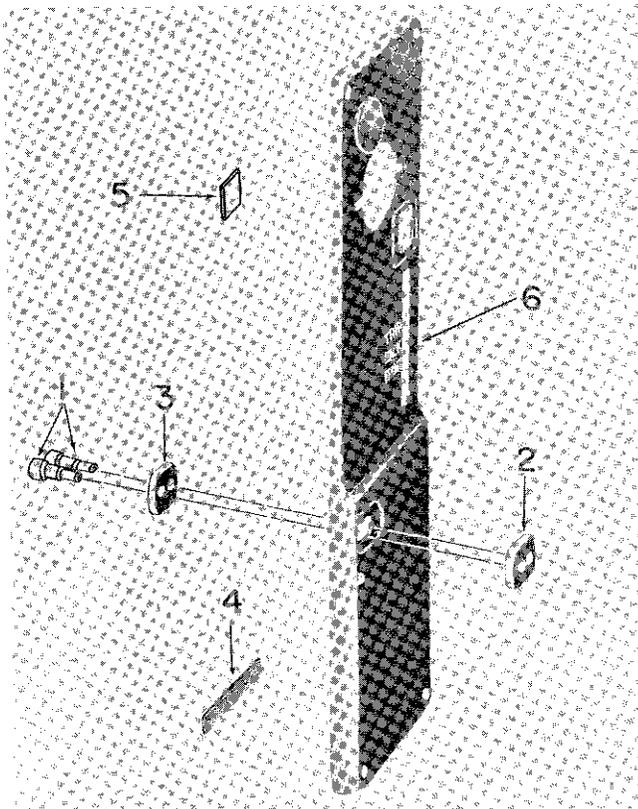
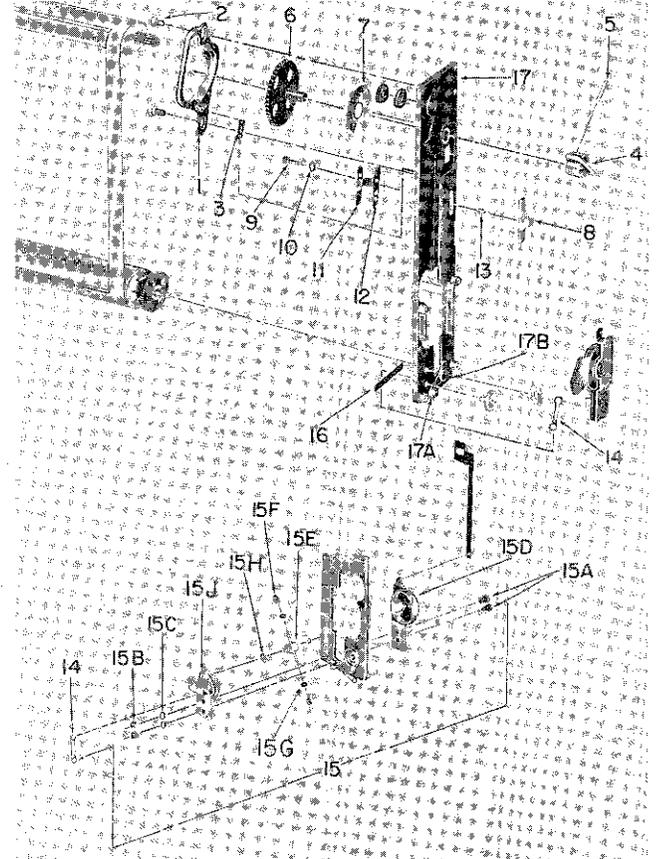

Figure 17. Cover Shutter Plate
Figure 18. Shutter Plate
2. Remove stud (1, figure 17), insulator (2), and washer (3), if necessary.
1. Remove the slide dial (8, figure 3) from the governor stud. Remove the shaft retainer screw (6) and slowly unwind the tension shaft retainer (7). Swing the retard cam lever assembly (17A, figure 18) forward to raise the governor. Remove four wood screws (9, figure 3) and lift the shutter mechanism plate assembly (5) from the camera.
2. The shutter plate (figure 18) is disassembled in four stages; disassemble the portion necessary.
a) Escapement, Master Gear, Winding Key. The escapement (1) is secured by two escapement screws (2). Remove and unhook the escapement spring (3). Remove the taper pin (5), the winding key assembly (4) and then the master gear assembly (6) from the inside. Lift the shutter dial (7) from its boss.
b) Shift Slide (8). To remove, unscrew the machine screw (9) and lock washer (10). Lift off the shift slide spring (11) and the shift slide plate (12) and the shift slide spacer (13).
1. Shutter Plate Cover. Examine the shutter plate cover (2, figure 3) for dents that will obstruct the working of the dial slide (8) or governor assembly. Using a stiff brush, brush the fabric dust seal (4, figure 17) to remove dust and grit that may have collected.
2. Shutter Mechanism Plate Assembly. Clean all parts of the shutter plate (figure 18) with solvent, trichlorethylene (AN-T-37a). Dry all parts thoroughly before reassembly. Check the spring (3 and 14); replace if stretched or deformed. Inspect the gears for worn teeth and loose stop pins.
4. Contacts. Check the height of the receptacle contact (13, figure 21) and the receptacle jumper (21). Both of these must be arched above the wood surface at least 3/16 inch so that they will make positive contact with the receptacle contact studs (1, figure 17). Check the curvature of the spring finger contact (17, figure 3); these contacts should be arched evenly not more than 5/32 inch above the block. If the short and long switch contacts (17 and 19, figure 21) are causing an electrical short, remove the body release plate assembly (11), paragraph VI.A. and replace the contacts.
3. Shutter Mechanism Plate Reassembly (figure 18). If the governor complete (15), has been dismantled, lubricate by wiping the outside ends of the governor shoes (15F) and governor pinion assembly (15E) with graphite powder, AN-G-24. The governor shoes must slide freely on the cross shaft of the pinion assembly. Reassemble the governor as follows:
a) Position the bottom bracket assembly (15J) on the lower cut-out of the plate assembly (17).
d) Hook the governor spring (14) to the bottom bracket assembly (15J) and to the lower stud on the plate assembly (17).
c) Rotate the winding key until "0" appears squarely in the upper half of the speed shutter dial window (5, figure 17) when the upper master gear pin is stopped against the top step of the escapement (1) figure 18).
d) With the bottom strut of the curtain 1/4 inch from the upper, inside edge of the frame, position the shutter mechanism plate assembly (5, figure 3) over the pinion ends of the curtain rollers (10). The escapement actuating lever of the concealed body release plate must contact the bottom stud of the escapement assembly (1, figure 18) and the shutter selector shift slide and the shutter selector lever of the concealed body release (located near the middle) must contact the bottom shift plate slide (12). The gear of the top roller meshes with the master gear assembly (6).
e) Swing the retard cam lever assembly (17A) forward to raise the governor complete (15). Drop the bearing shaft of the tension roller in the lower bearing hole of the plate (17). At the forward edge of the plate is a narrow cut-out which fits with a raised lip of the concealed body release plate.